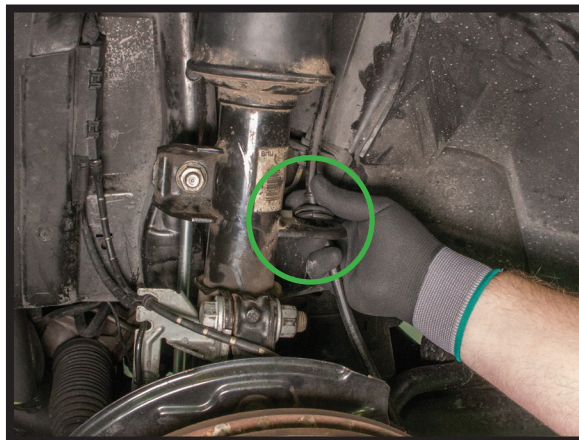

FIGURE 1
4. REMOVE THE BRAKE HOSE FROM THE RETENTION BRACKET ON THE STRUT. (FIGURE 1)